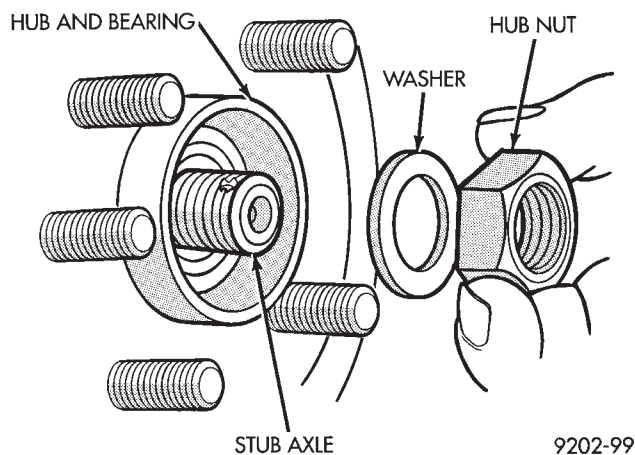

Fig. 17 Install Washer and Hub Nut
- (10) Install brake caliper assembly guide pin bolts. Tighten guide pin bolts to 25-35 N•m (18-26 ft. lbs.) torque. **When installing guide pins, use extreme caution not to cross the threads.**
- (11) Clean all foreign matter from the threads of the stub axle (Fig. 17). Install the washer and hub nut (Fig. 17) onto the threads of the stub axle and tighten nut.